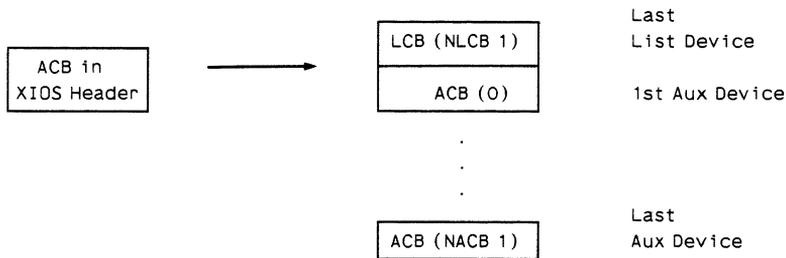

Figure 4-6. Auxiliary Control Block Table
There are two data structures that the XIOS uses to manage auxiliary device access, Auxiliary Control Blocks (ACBs) and the ACB Table. The XIOS must define an ACB for each auxiliary device it supports. The number of ACBs must equal the number specified in the NACB field of the XIOS Header (offset C0FH). The ACB field of the XIOS Header (offset C3AH) contains the offset (relative to SYSDAT) of the first ACB. The ACB Table begins with ACB (0) and ends with ACB (NACB-1). As shown in Figure 4-6, the ACB Table must immediately follow the LCB Table in your XIOS.